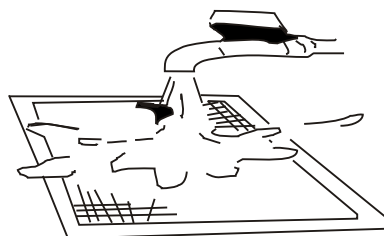

Fig. 2
- The air-in side should face down when using water. (See Fig. 2)